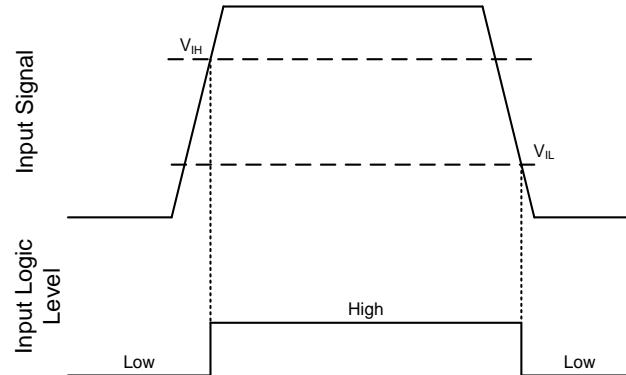

Figure 13 IN & /SD input thresholds
The input pins are based on a TTL and CMOS compatible input-threshold logic that is independent of the Vcc supply voltage. Figure 13 illustrates an input signal to the 2ED2109 (4) S06F (J), its input threshold values, and the logic state of the IC as a result of the input signal. The typical high threshold (V_{IH}) of 2.1 V and typical low threshold (V_{IL}) of 0.9 V. The input pins are conveniently driven with logic level PWM control signals derived from 3.3 V and 5 V digital power-controller devices. Wider hysteresis (typically 0.9 V) offers enhanced noise immunity compared to traditional TTL logic implementations, where the hysteresis is typically less than 0.5 V. 2ED2109 (4) S06F (J) also features tight control of the input pin threshold voltage levels which eases system design considerations and ensures stable operation across temperature. The 2ED2109 (4) S06F (J) has input pins that are capable of sustaining voltages higher than the bias voltage applied on the Vcc pin of the device.